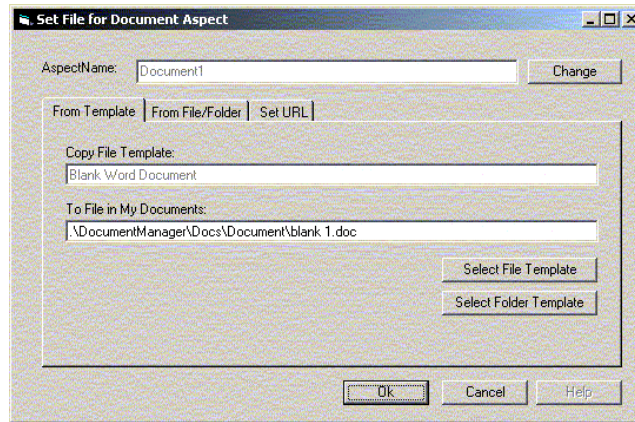

Figure 153. Set File Based on a Template
- In the *Aspect List Area*, select the document aspect and press the right hand mouse button for the context sensitive menu to appear. Press **Set File** to open the selection dialog (see Figure 153).
- select the template of your choice (e.g. Word Blank Document) and press **Ok** (see Figure 153).